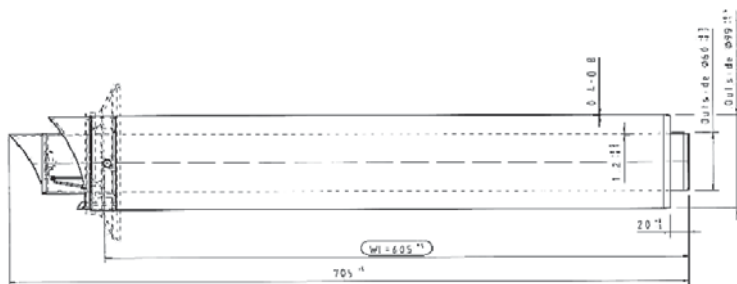
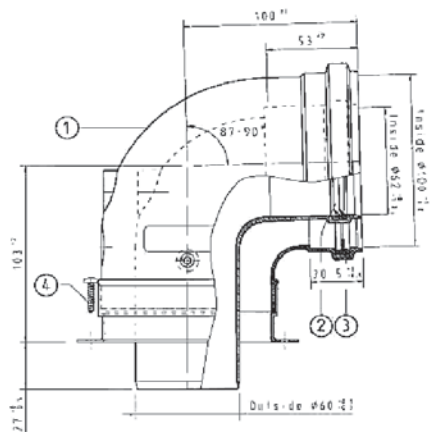

Fig.5
Fig.6
- 8.2. A standard 700 mm flue kit (*figure 5*) is supplied with the boiler which can be routed to the rear, left or right of the appliance by means of a 90 degree bend (*figure 6*). The bend is connected to the boiler by means of connection screws.